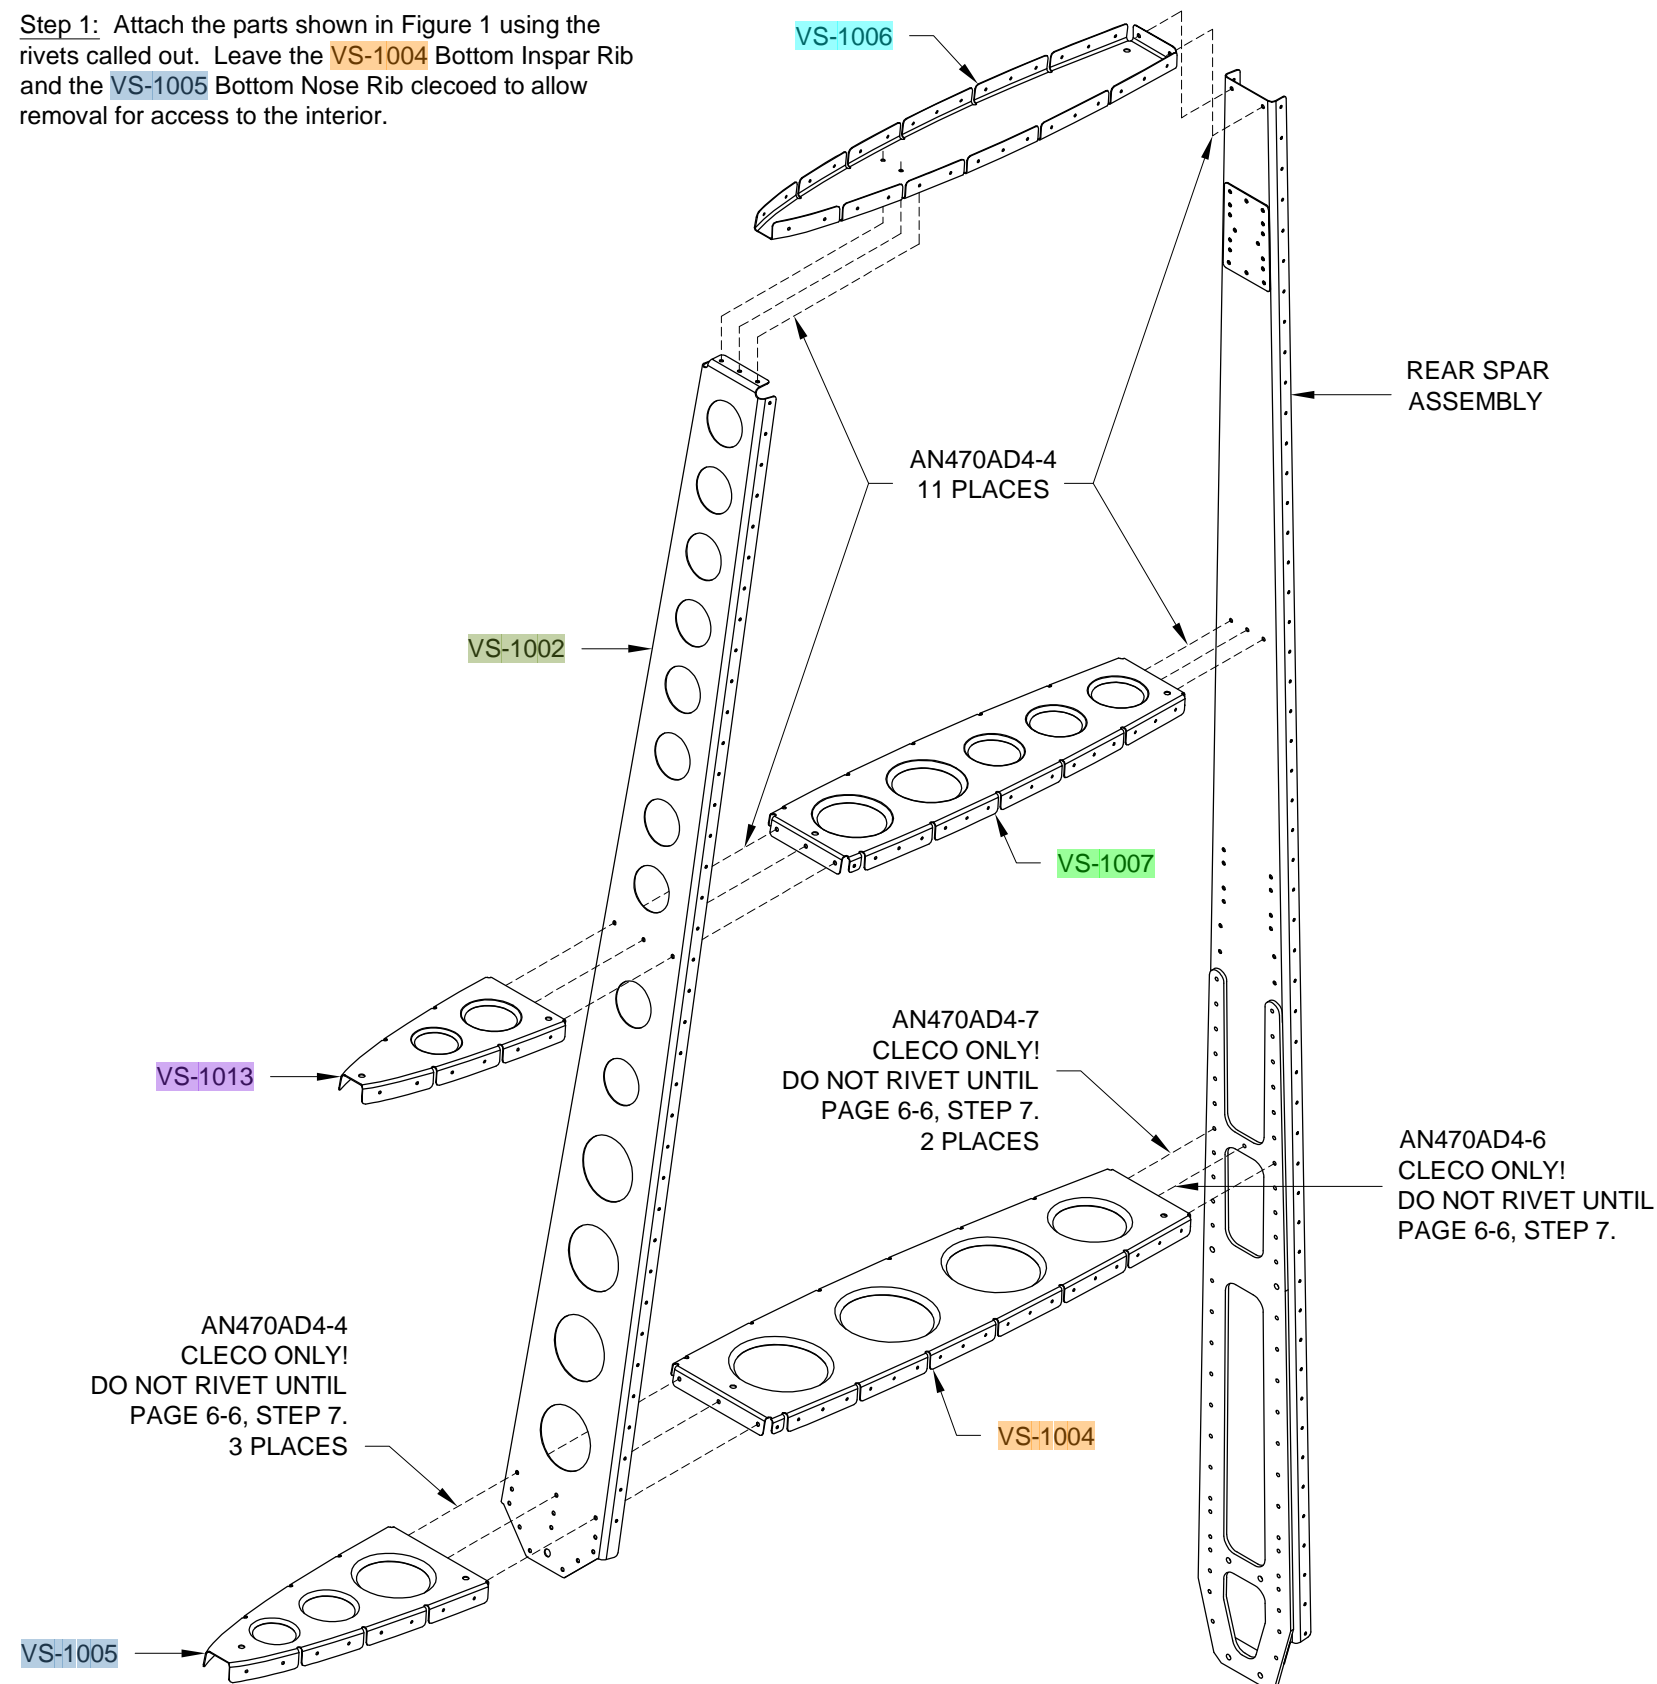

FIGURE 1: RIB RIVETS
Step 1: Attach the parts shown in Figure 1 using the rivets called out. Leave the **VS-1004** Bottom Inspar Rib and the **VS-1005** Bottom Nose Rib clecoed to allow removal for access to the interior.